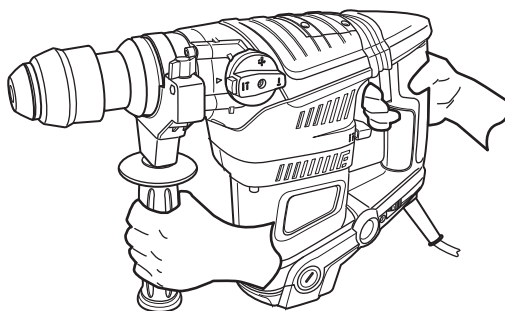

Fig. 9
- > Switch the product on by pressing the on/off switch (9) (Fig. 9).
- > Switch the product off by releasing the on/off switch (9).
- > Always hold the product on its handles. Keep the handles dry to ensure safe support (Fig. 9).